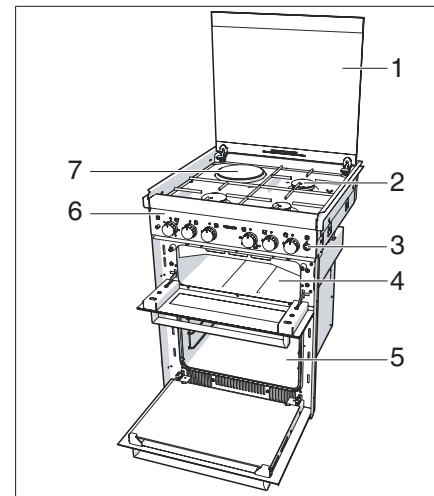

Fig. 168 Fullcooker
- For spark ignition models: Push the ignition button (Fig. 168,3).